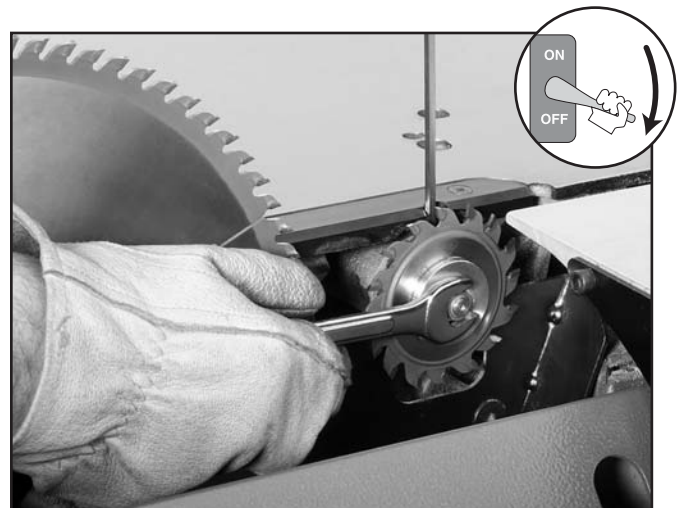

Figure 34. Installing the scoring blade.
- Place a hex wrench in the hole in the arbor and use the arbor wrench to tighten the arbor nut as shown in **Figure 34**.